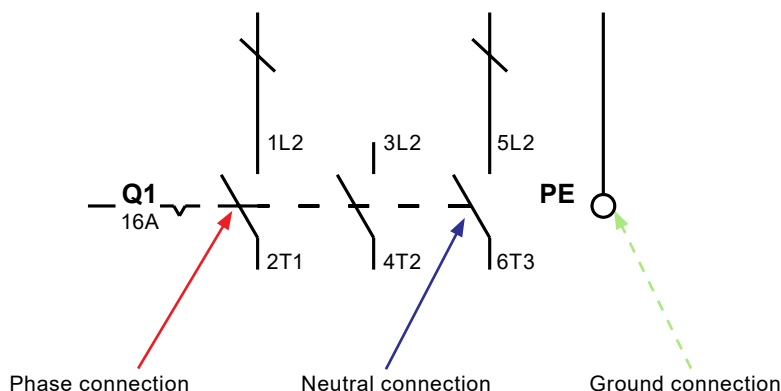

Fig. 2
Mains supply is directly connected to the primary side of the incoming control panel isolator (shown with the IP2X cover removed) and main ground terminal as shown in Figure 2.
- Check that all the electrical connections are secure and as per the wiring diagram (Section 3.3, Figure 2).